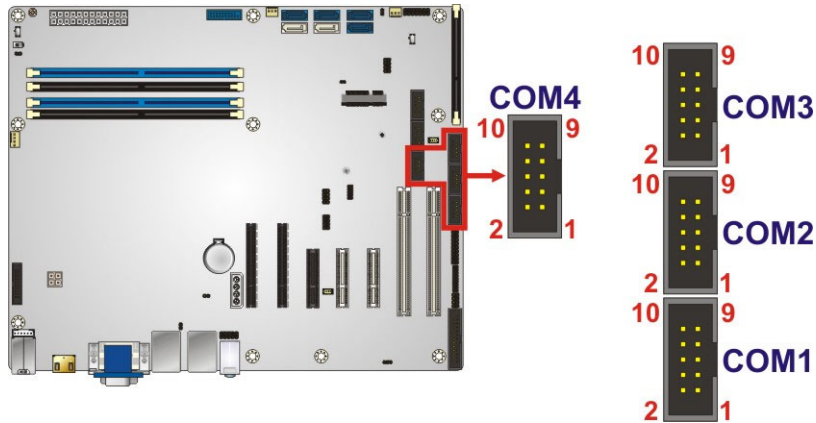

Figure 3-26: RS-232 Serial Port Connector Location
- CN Location:** See Figure 3-26